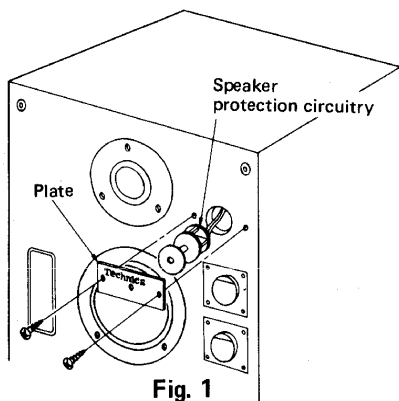

Fig. 1
1. When repairing the speaker protection circuit remove the two screws on the plate as in Fig. 1.